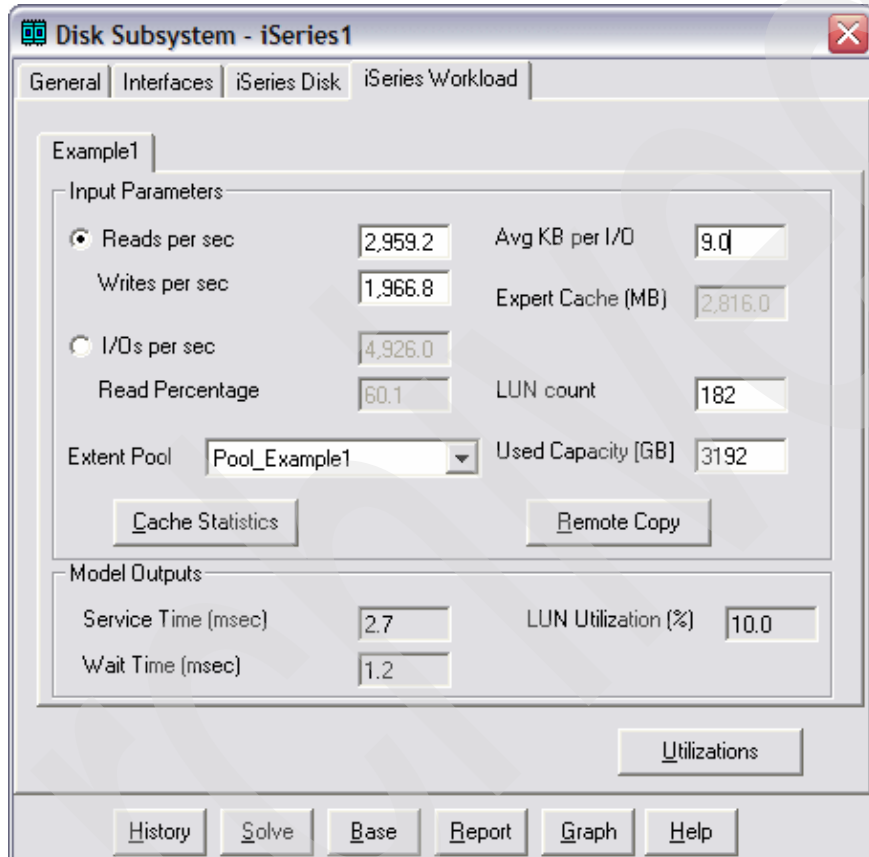

Figure 4-38 Planned number of LUNs
In our example, we use 182 x 17.54 GB LUNs, so the usable capacity for i5/OS is 3192 GB (see Figure 4-38). We recommend that you create one extent pool from one DS rank. Nevertheless in Disk Magic, you can model one extent pool that contains all planned ranks, because modeled values do not depend on the way in which extent pools are specified in Disk Magic. In our example, we use only the extent pool created by Disk Magic as the default.
8. After you enter the planned values of the DS configuration, in the Disk Subsystem - iSeries1 panel (Figure 4-38), click **Solve**.